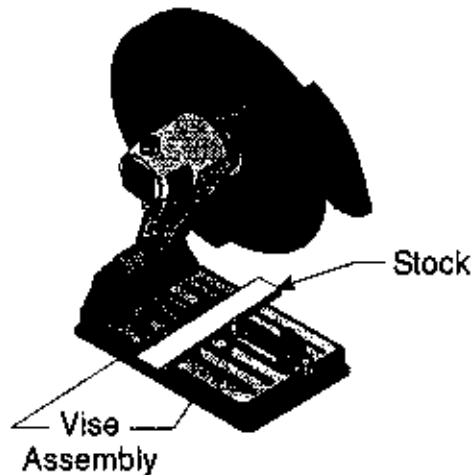

Figure 2 – Positioning Stock
Step 1: Your stock should always be centered under the Wheel. Set the vise assembly as shown in Figure 2.